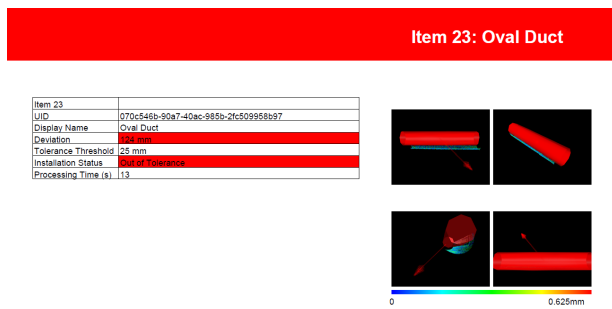

Figure 5. An example of a BuiltView's QA/QC workflow, where deviations are automatically calculated, removing subjectivity in measurements.
- *Geometrical Compliance*: By leveraging BuiltView as an in-house digital tool for automatically checking geometric compliance (see Figure 5), Laing O'Rourke reduced the turn-around time on as-built validation. Typically, surveyors' reports are based on spot checks of less than 10% of object area. With BuiltView, this percentage can increase to 100% at no additional cost. Moreover, with BuiltView these comprehensive and automated checks allow for a proactive approach to defect identification, allowing for an indirect reduction in total defects and consequent schedule delays.